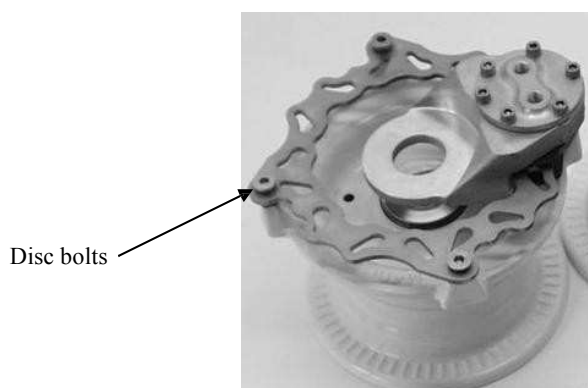
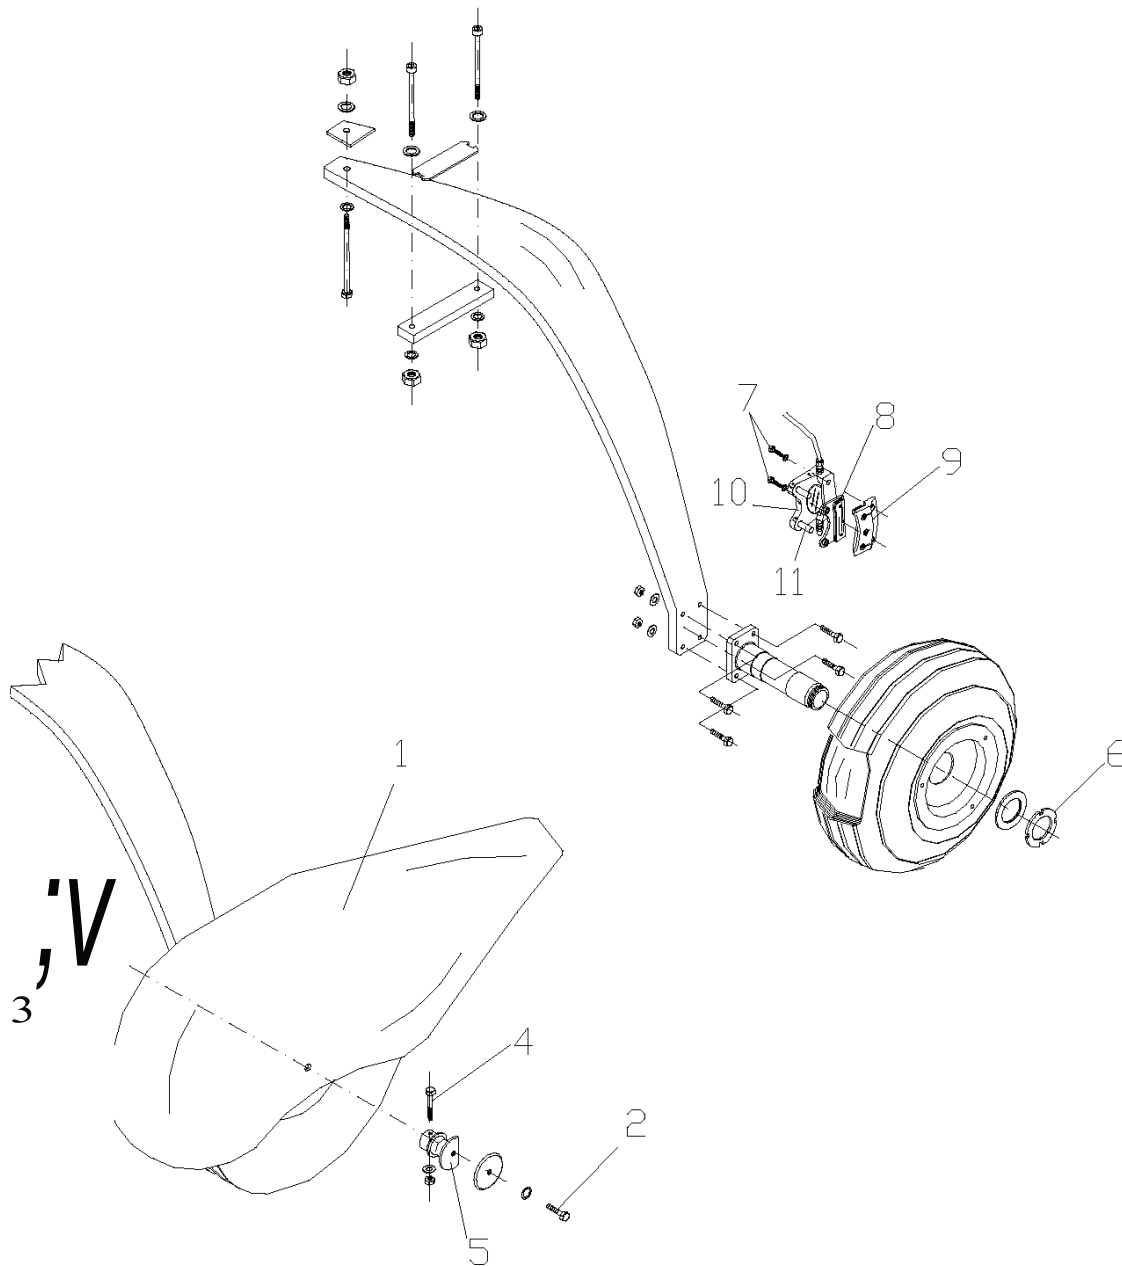

Figure 4-14
Figure 4-15 Removal of main gear wheel
- ♦ Remove fairing (1) by releasing bolt (2) and the three Phillips screws (3) that hold fairing to plate
- ♦ Remove bolt (4) and cup (5)
- ♦ Remove wheel lock nut (6)
- ♦ Unscrew 4 brake disc assembly bolts (See Figure 4-14 and Figure 4-15 (8))